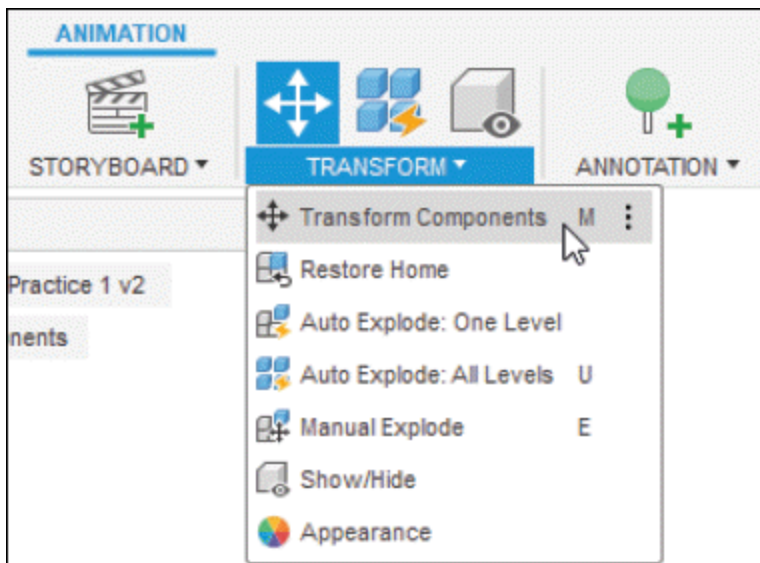
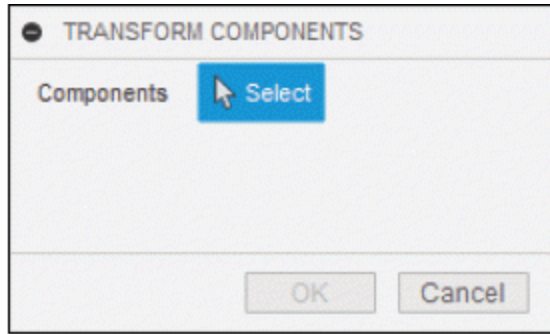

Figure-35. Transform Components tool
Figure-36. TRANSFORM COMPONENTS dialog box
- Click on the **Transform Components** tool of **TRANSFORM** drop-down; refer to Figure-35. The **TRANSFORM COMPONENTS** dialog box will be displayed; refer to Figure-36.